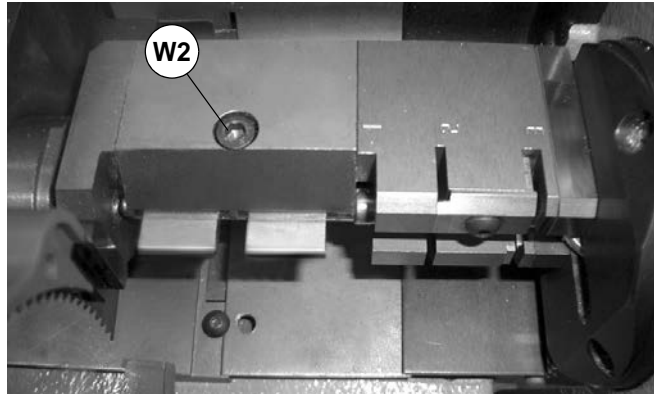

Fig. 65
Remove the plate (P) in order to fit the key blank into the rotating clamp (S1) from the front (*) placing the stem into the “V” on the jaws of the K2 tailstock. Take care to keep the bit in the horizontal position and the key stop up against the stop (STOP 1). Secure the key by tightening the jaw screw (W2) with the (T4) wrench (fig. 65). Replace the (T4) wrench in its seat.